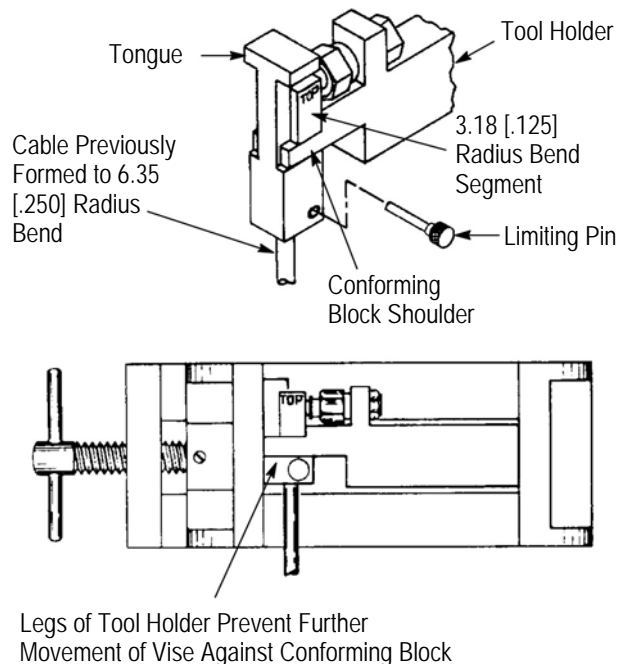

Figure 16
8.2. To Make 3.18mm [.125 in.] Bends on RG-402 Cable (Figure 16)
4. Place the conforming block over the cable with the tongue of the block in the slot of the tool holder, as shown in Figure 16.